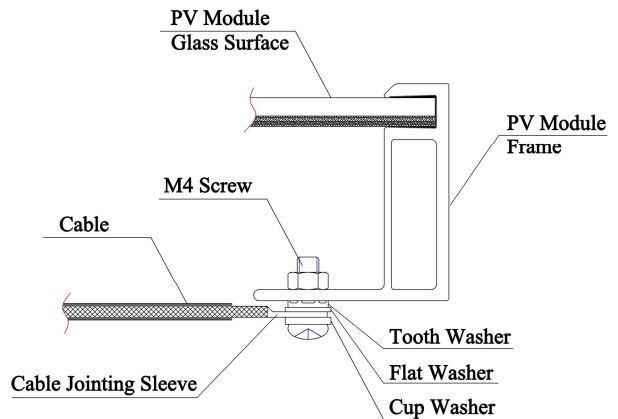

Figure 13: Grounding method
- The grounding conductor must then make a connection to earth using a suitable earth ground electrode. Recommend to use the ground wire accessories (lugs) connected to ground cable. Welding ground cable to the jack of lugs, and then with the M4 screws inserted into the wiring nose ring and the grounding hole of the module frame, fastening with nuts. Star spring washers should be used to prevent the screws from loosening and lead to poor grounding, as shown in Figure 13.